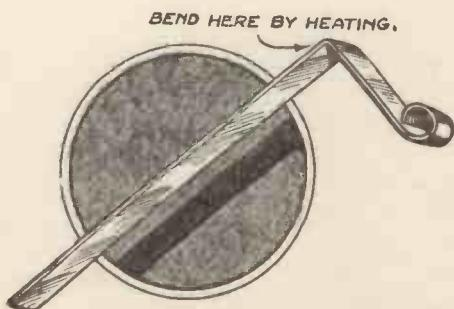

Fig. 7.—The Firing Spring.
**Fixing the Spring.**—When fixing the spring, first bend the top pieces by heating (see Fig. 7), and insert it at the top. Press the top of the spring down, and bend the bottom round so that it is sprung into position in hole C. The end